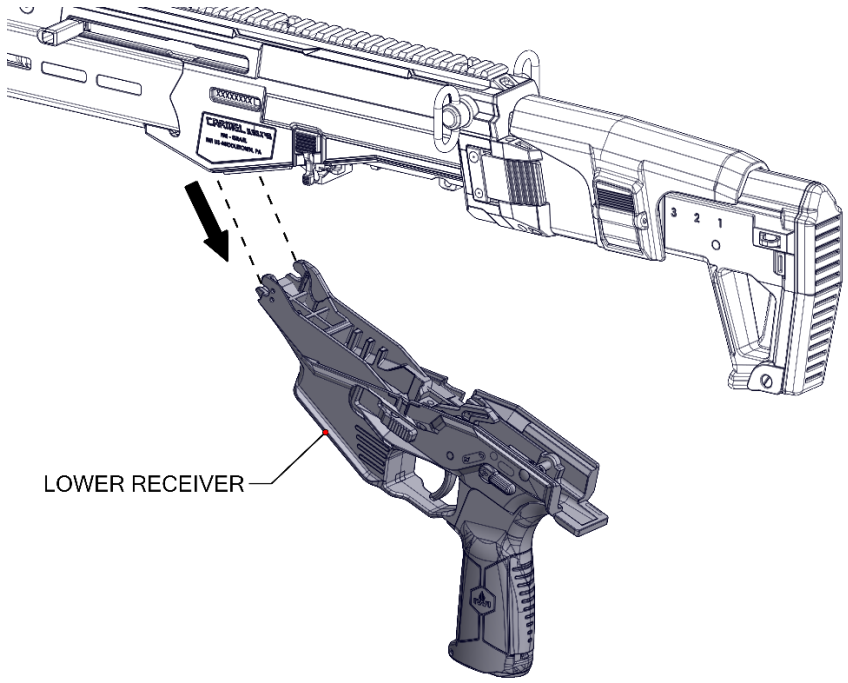

Figure 10-7 – Pulling Out the Lower Receiver
3. Lower the Receiver downwards and pull it out (Figure 10-7).